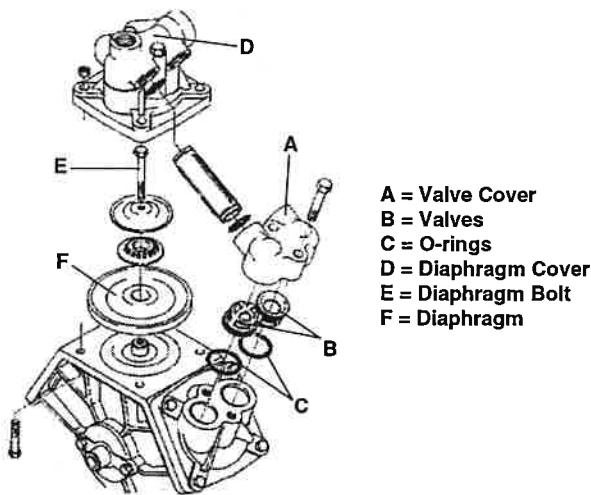

Fig 38
- 1 Remove valve covers (A Fig 38). Before changing the valves (B Fig 38) note their orientation so they are replaced correctly. It is recommended to use new O-rings (C Fig 38) when changing or checking the valves.
- 1 Remove the diaphragm covers (D Fig 38).
- 2 Remove the diaphragm bolts (E Fig 38).
- 3 The diaphragms (F Fig 38) may now be changed.